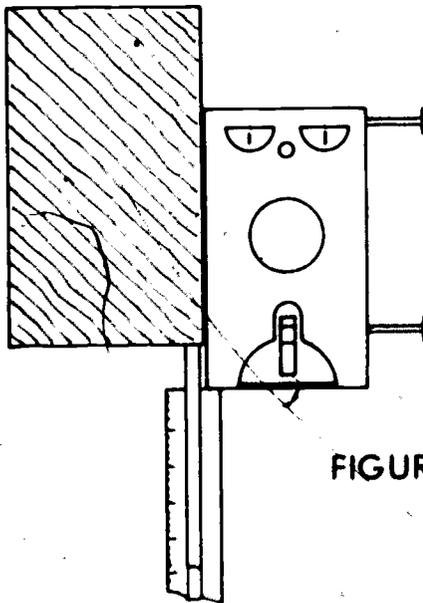

FIGURE 2
- D. Locate box on center with correct set out (Figure 2)
- C. Remove attachment screw and spacer from bar hanger (Figure 2)